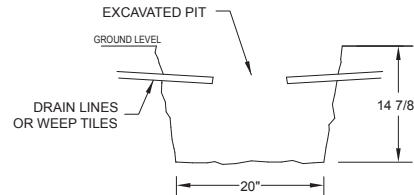

Figure 2.1
- 2.1) Excavate the site to the dimension shown in Figure 2.1.